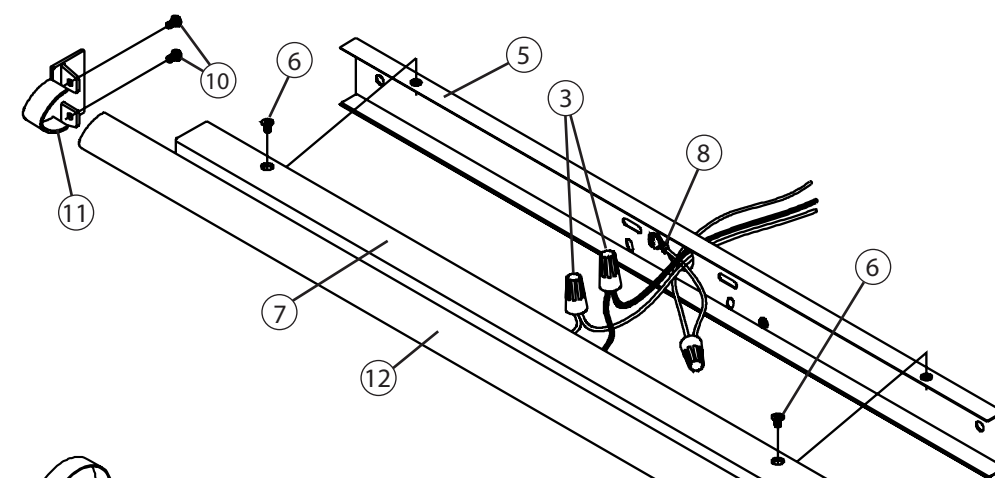

Figure 2
3. Access the rear of the Housing (7) and remove two Endcap Mounting Screws (10) holding one of the Endcaps (11) in place. Slide the Endcap (11) off of the Housing (7). See Fig. 2.
4. Remove the damaged Diffuser (12) from the Housing (7) by sliding it off the Housing extrusion. See Fig. 2.
5. Carefully slide the new Diffuser (12) onto the extrusion along the face of the Housing (7) until the leading edge enters the attached Endcap (11) . See Fig. 2.
6. Re-install the Endcap (11) to cover the exposed end of the Diffuser (12) and align the mounting holes. Re-insert the two Endcap Mounting Screws (10) and tighten. FIG. 2.
7. Without pinching the wires, position the Housing Assembly (7) over the Backplate (5) with the mounting holes aligned. Insert Flat Head Screws (6) and tighten.
4. Carefully slide the new Diffuser (12) onto the extrusion along the face of the Housing (7) until the leading edge enters the attached Endcap (11) . See Fig. 2.
5. Re-install the Endcap (11) to cover the exposed end of the Diffuser (12). Center the Endcap (11) over the exposed mounting stud and screw it into position.
6. Without pinching the wires, position the Housing Assembly (7) over the Backplate (5) with the mounting holes aligned. Insert Flat Head Screws (6) and tighten.